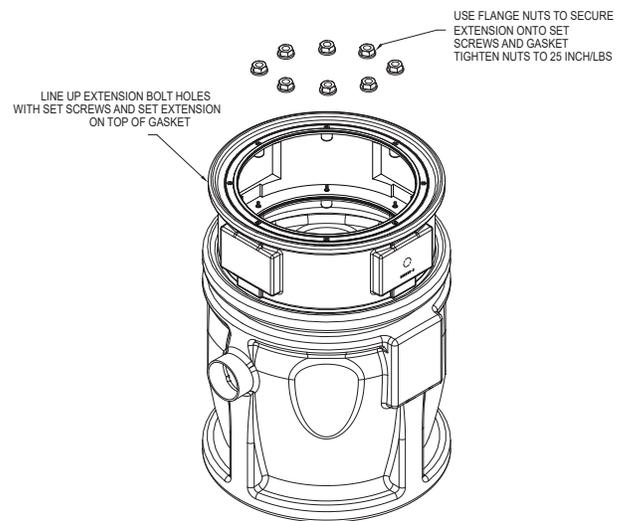

FIGURE 4
6. Line up extension bolt holes with set screws and set extension on top of gasket. Use flange nuts to secure extension onto set screws and gasket. Tighten flange nuts to 25 in./lbs.(Figure 4)